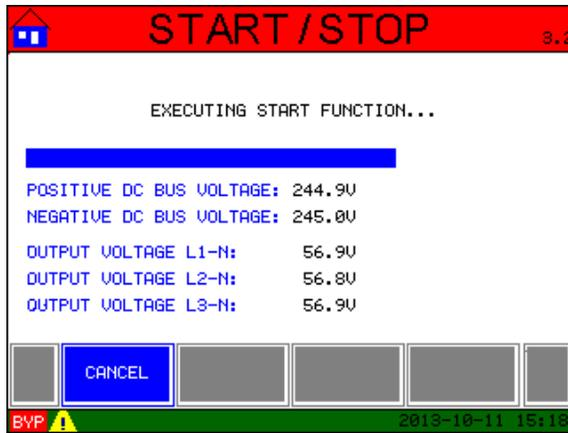

Fig. 4-42
Step 10: Upon successful completion of the internal control checks (Fig. 4-42), the inverter will turn on and the Normal Operation screen will appear.